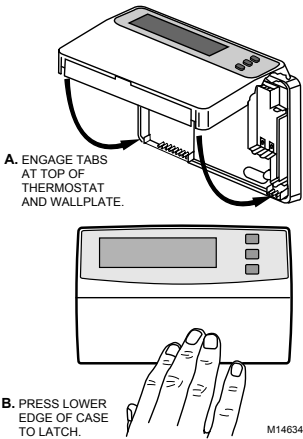

Fig. 6. Mounting thermostat on wallplate.
- Engage tabs at the top of the thermostat and wallplate. See Fig. 6.